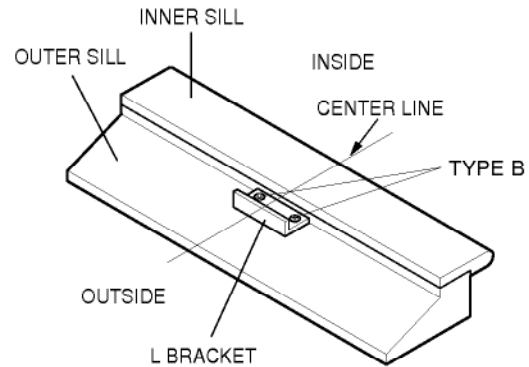

Figure 29
- Bracket helps to hold unit securely in place. Be sure to place bracket edge flush against back of inner sill. See Figure 29.
- Carefully lift the air conditioner and slide it into the open window. Make sure the notch of the bottom guide fits over the **L** bracket and pops into place. See Figure 29.